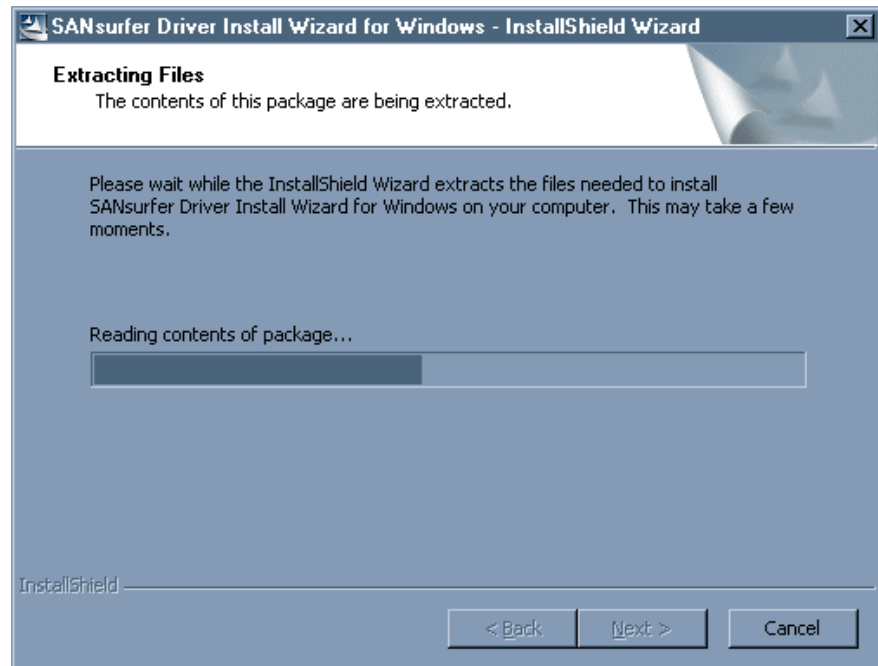

Figure 55 SANsurfer Driver Install Wizard for Windows
1. Install the SANsurfer Install Wizard for Windows Kit CD-ROM to start the SANsurfer HBA Install Wizard. If you downloaded the kit to your hard drive locate and double-click the file. The wizard, shown in Figure 55, will extract needed files from the installation kit.